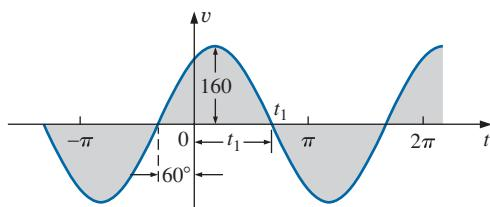

FIG. 13.95
\*37. The sinusoidal voltage  $v = 160 \sin(2\pi 1000t + 60^\circ)$  is plotted in Fig. 13.95. Determine the time  $t_1$  when the waveform crosses the axis.
39. For the waveform of Fig. 13.95, find the time when the waveform has its peak value.